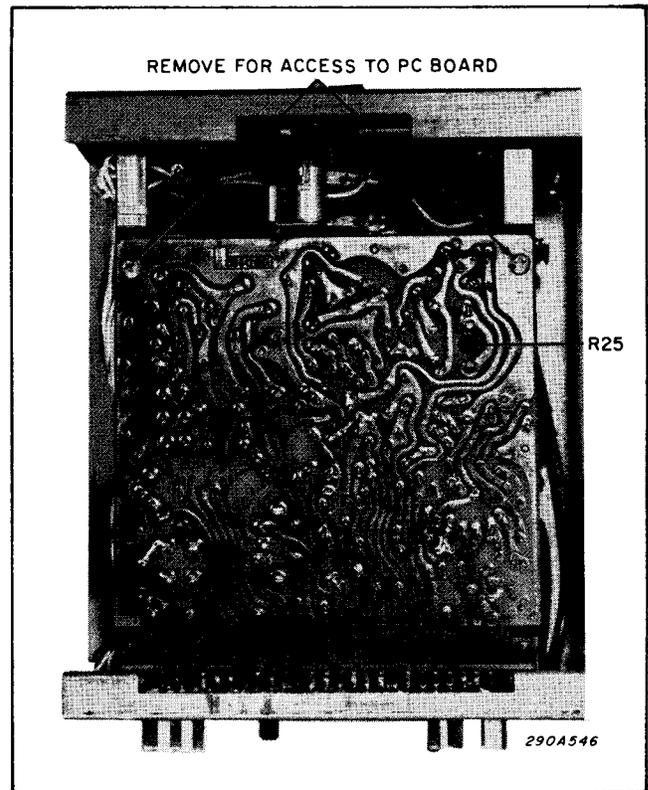

Figure 9. PC Board Removal.
The PC Board is secured to the chassis by two Phillips-head screws (figure 9). Removing these screws allows the board to be pulled out of its edge connector.
3. Set the SELECTOR switch to WAIL or HI-LO. Adjust R25 (see figure 9) for a perfect square wave on the oscilloscope.